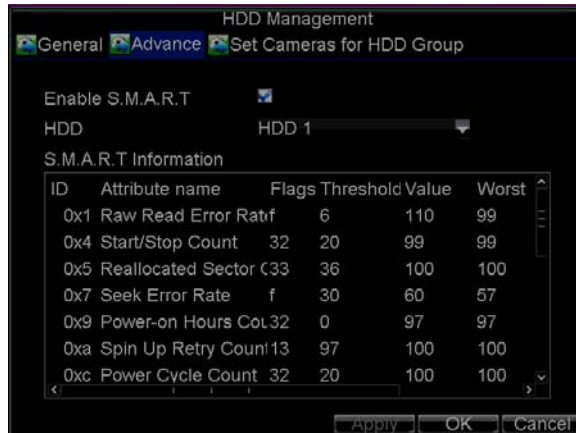
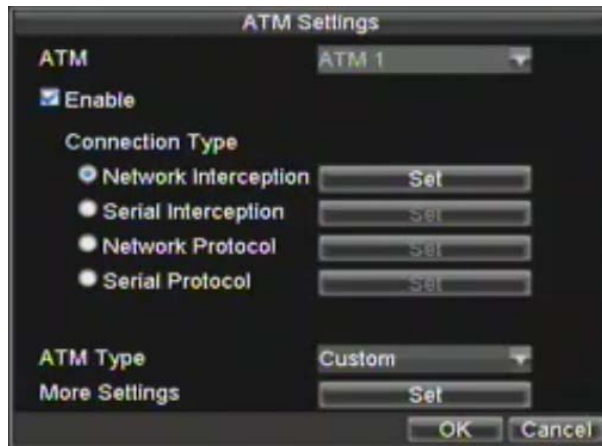

Figure 11. HDD SMART Menu
Figure 1. ATM Settings Menu
User can also click Menu > HDD to enter the HDD management menu, as shown in Figure 1, and then select the **Advance** option to enter the SMART menu, as shown in Figure 11. User can enable the SMART function and view the SMART information as well.
1. Enter **ATM Settings** menu, shown in Figure 1 by clicking Menu > Setting > ATM to enter ATM Settings menu.